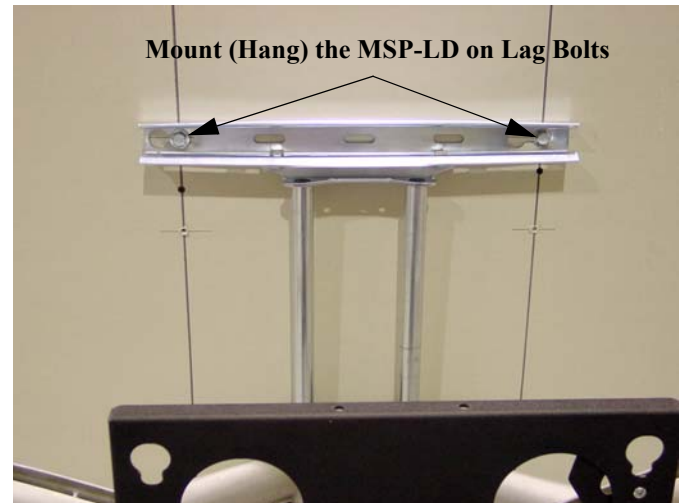

Figure 2. Mount MSP-LD on Lag Bolts
- a. With an assistant, lift and hang the MSP-LD on the two lag bolts and washers previously installed on the wall. See Figure 2.